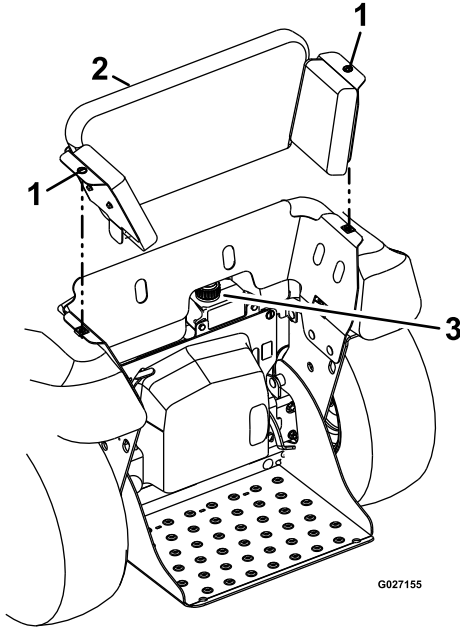

Figure 97
2. Rotate counterclockwise the 2 quarter-turn fasteners that secure the knee pad to the chassis of the machine (Figure 97).
3. Lift the knee pad up and rearward slightly and remove the pad from the machine (Figure 97).
4. Clean area around fluid-expansion tank and remove cap (Figure 97).
7. Install the tank cap onto the expansion tank and tighten the cap until it is snug (Figure 97).